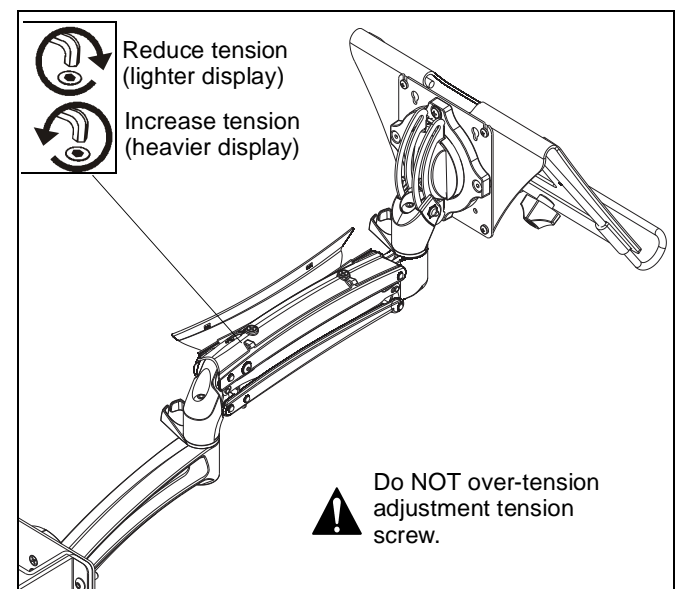

Figure 7
1. Tension may also be adjusted with upper tension adjustment screw inside cable management cover and 1/8" hex key (H). (See Figure 7)